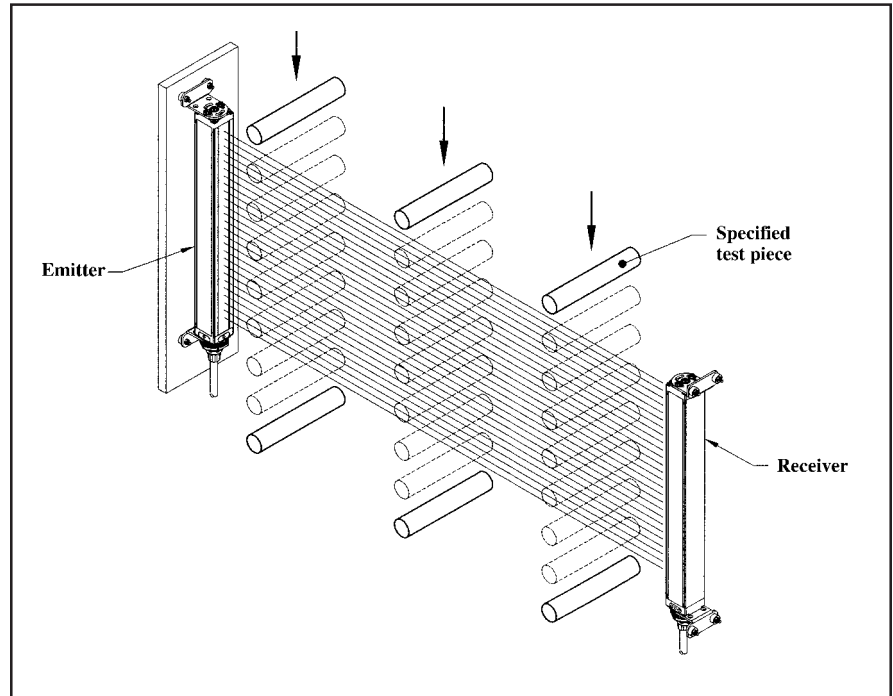

Figure 28. Use of Test Piece
- b) With the guarded machine at rest, pass the *specified test piece* (supplied with the control box) downward through the defined area at three points: close to the receiver column, close to the emitter column, and midway between the emitter and receiver columns (figure 28). In each case, the red and yellow indicators (only) should come "on" and remain "on" for as long as the test piece is within the defined area. When the test piece is withdrawn from the defined area, the green and yellow indicators (only) should come "on". If the green indicator comes "on" at any time when the test piece is within the defined area, check for reflective surfaces, and do not continue until the cause is discovered and the situation is resolved.
- a) Verify that the MINI-SCREEN System is in the RUN mode (green and yellow Status Indicator LEDs "on"). See Section 4.3 for RESET procedure. Refer to Figure 28.